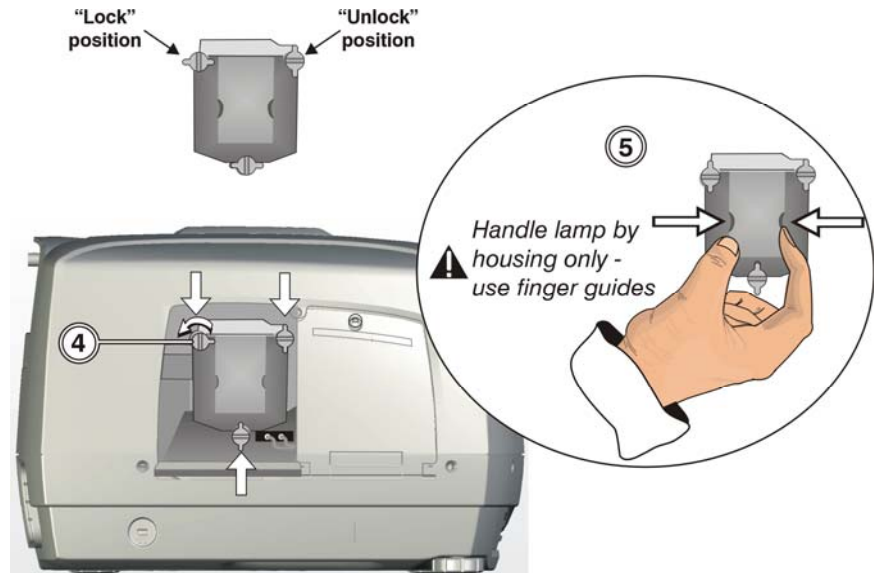

Figure 4.4.
4. Using a screwdriver or fingers, turn the three lock screws on the lamp module counter-clockwise a quarter turn each to “unlock” it. (Figure 4.4.)
5. Using the two finger guides molded into the lamp housing, pull the lamp straight out of the projector. (Figure 4.4) The lamp module disconnects from the terminal block located at the back of the lamp compartment.
- Turn the three lock screws on the new lamp module clockwise a quarter turn to “lock” it in place. (See Figure 4.4 for lock screw position.)